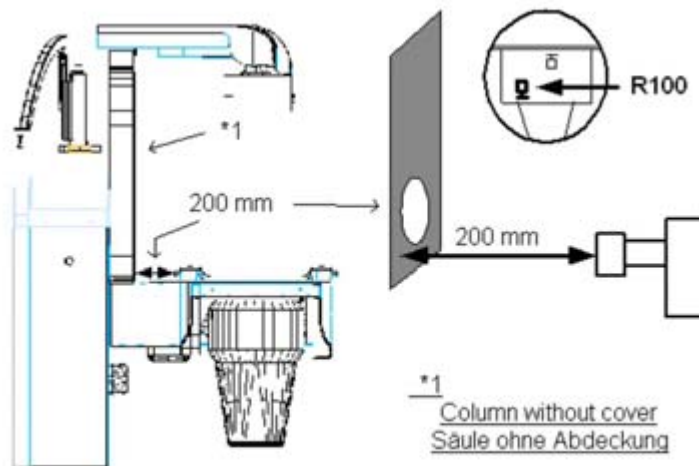

Fig. 31: Adjustment - tabletop transverse
- Use the service keys to move the table into reference position (Fig. 31 / p. 54).
The reference position of the table is 200 ± 1 mm distance from column to table accessory rails (Fig. 31 / p. 54).
Access: At table head end (see arrow (Fig. 31 / p. 54)).